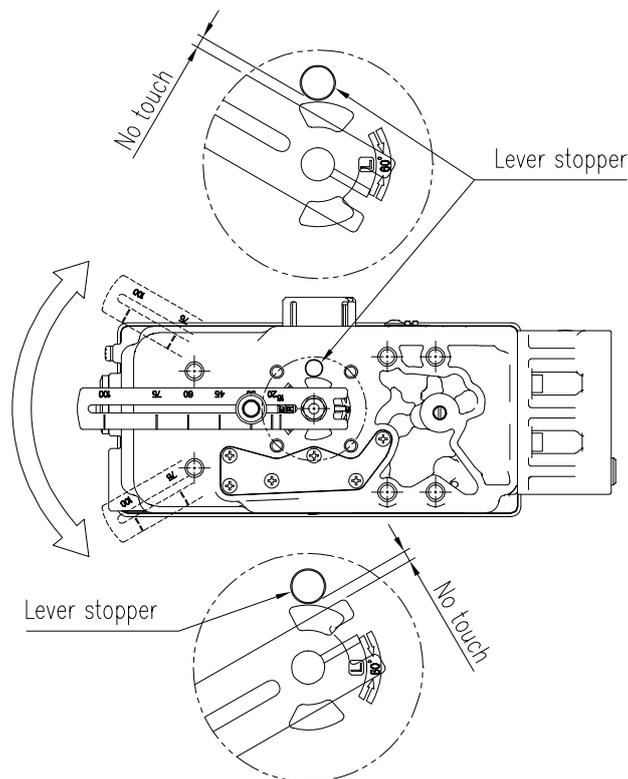

Fig. 3-16: YT-3300L / 3350L Feedback lever should not touch lever stopper on 0 % to 100 % valve stroke.
- 8) After installing the positioner, operate the valve from 0 % to 100 % stroke by using direct air to the actuator. On both 0 % and 100 %, the feedback lever should not touch the lever stopper, which is located on the backside of the positioner. If the feedback lever touches the stopper, the adapter holder should be moved or the adapter of feedback lever should be moved further away from the main shaft of the positioner. Refer to Fig 3-16.